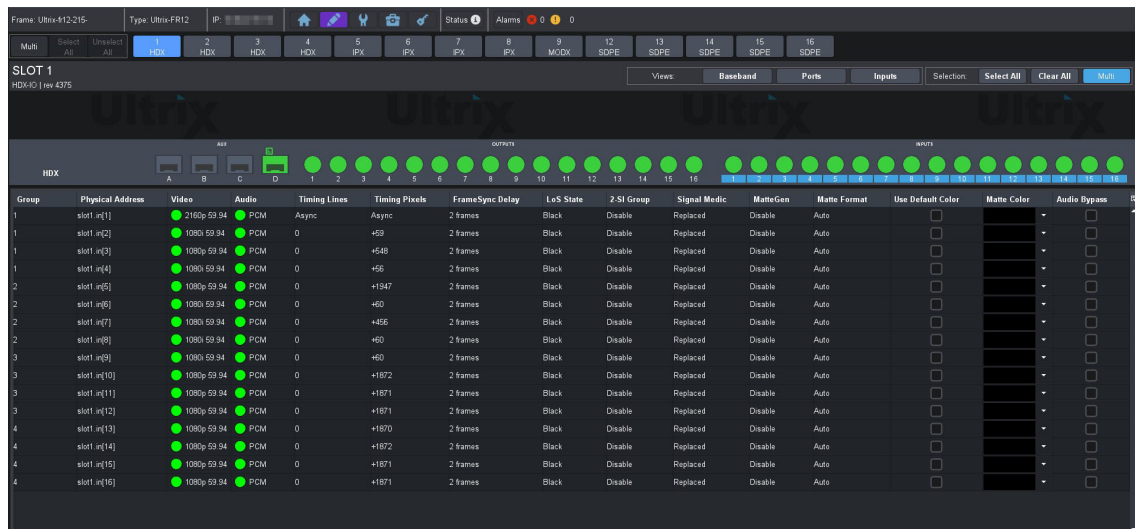

Figure 26 Example of an ULTRIX-HDX-IO Blade in the Port Configuration Interface
The Port Configuration interface displays the available SDI configuration options in a table format. Use the top toolbar to select a specific blade, or click Multi to select multiple blades of the same type. Use the Views toolbar to filter the table rows. For example, in **Figure 26** the user is viewing the ULTRIX-HDX-IO blade in slot 3, but has filtered the table to display only the Input Ports.
**Table 19** summarizes the options when Views is set to Baseband > Ports > Inputs. (**Figure 26**)